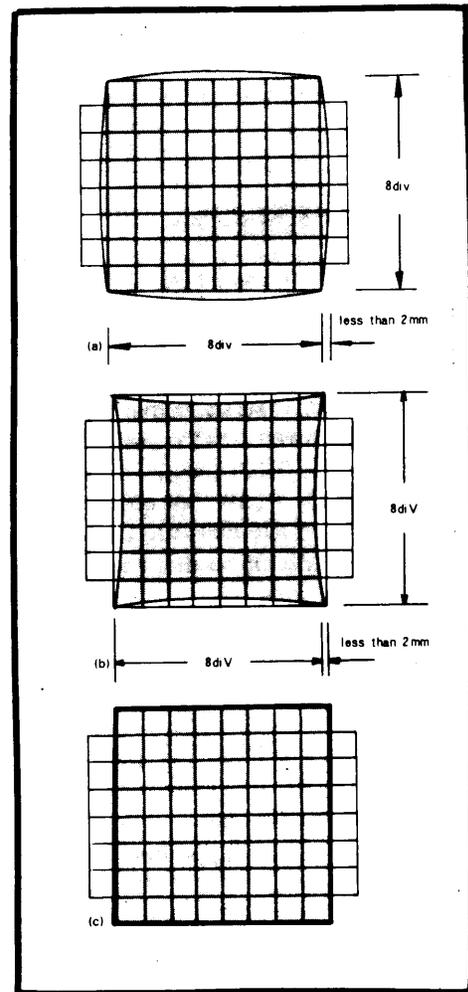

Fig. 17. Pattern Adjustment.
4. The ideal display is shown in Fig. 17. If the display is similar to (a) or (b), adjust VR301 to achieve pattern (c).